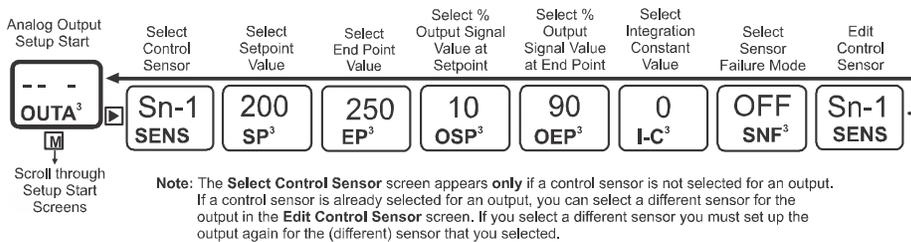

Figure 25: Analog Output Setup Start Screen and Setup Screen Flow
When you supply power to a module assembly, the control module polls all of the connected modules, detects all of the outputs in the module assembly, then assigns an output number to each output, and enables an **Analog Output Setup Start (OUTA^X)** screen for each analog output detected (Figure 25 on page 52). See *Analog Outputs* on page 20 for more information.
1. Access the System 450 UI and navigate to the desired **Analog Output Setup Start (OUTA^x)** screen (Figure 25). (See *Accessing and Navigating the User Interface* on page 42 for information on accessing the System Setup screens.)